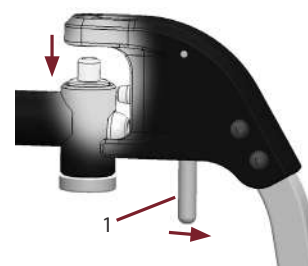

Figure 20. Mounting of leg rest
- Align the hole in the knee joint over the peg and let the knee joint slide down (Figure 20). It may be easier if the lever (1) is pressed forward.
- Grip the leg rest and move the lever (1 in Figure 20) forward.